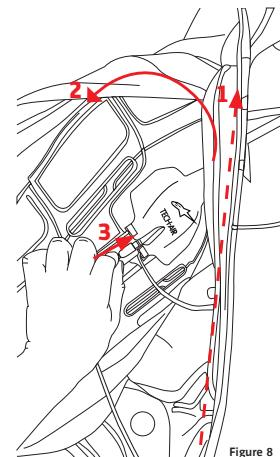

Figure 8
💡 Tip: When the Tech-Air® Race airbag system is installed in a leather suit, the MicroUSB port can be accessed easier by unzipping one of the vest attachment zips (1) and partially lifting the vest outward. (See figure 8).
Tip: It is easier to access the master switch (8) by first unzipping one of the Vest attachment zips (1) and partially lifting the Vest out of the suit (See Figure 8). Naturally after switching the master switch back on, the vest attachment zip requires to be reattached.